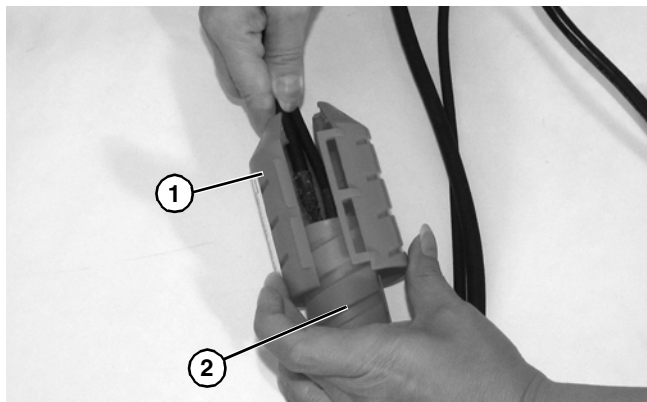

Figure 39
2. Remove outer cord cover (**Figure 39, item 1**) from inner cord cover (**Figure 39, item 2**).